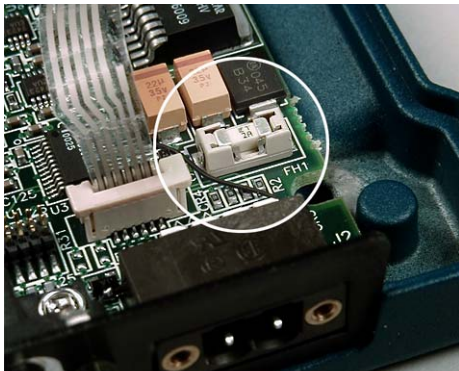

Figure 16.
4. Locate the fuse holder assembly behind the power connector. (See Figure 16).